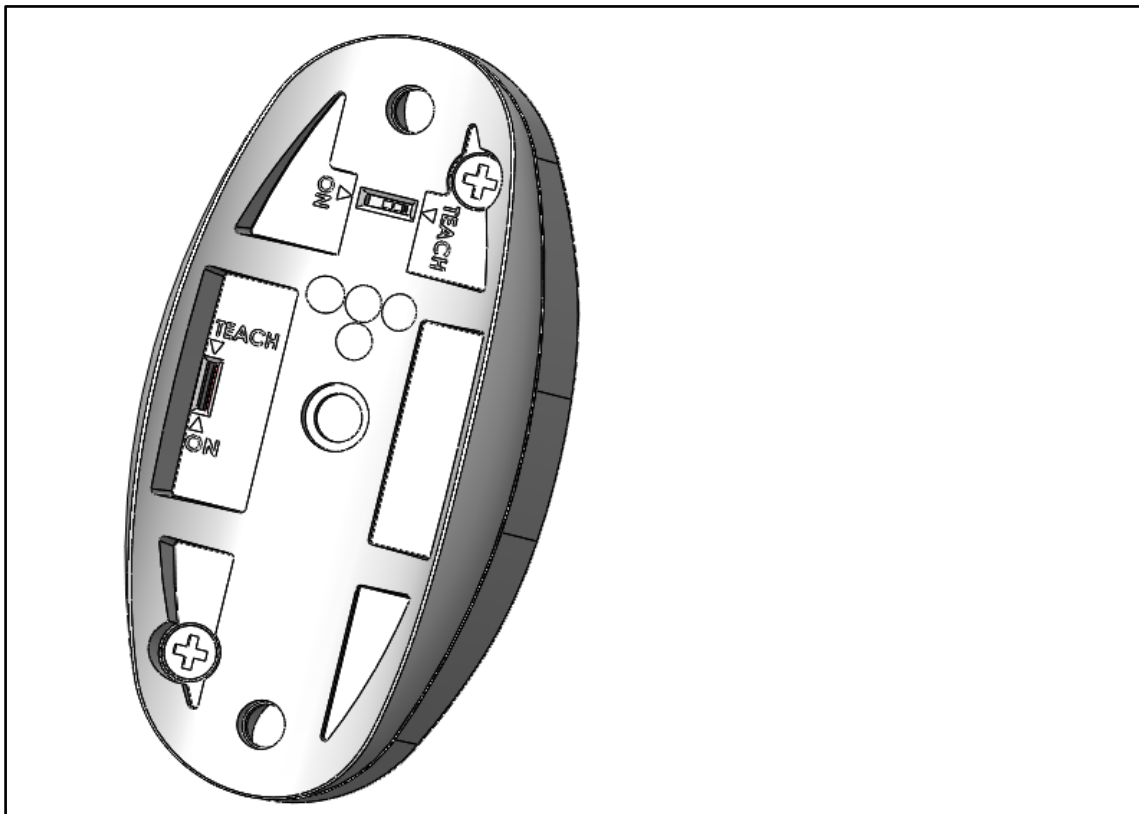

Figure 6. ON / TEACH switch
2. Set the buttons to TEACH mode. (See Figure 6.)
- c. Mark the programmed buttons with their channel and set them to ON mode. (See Figure 6.)